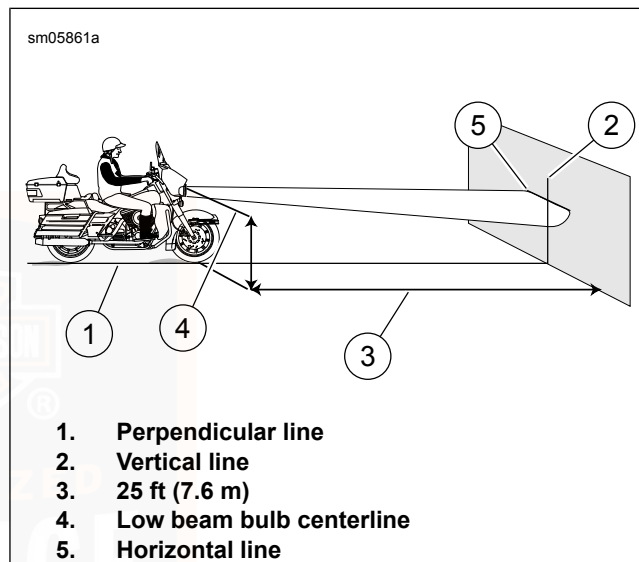
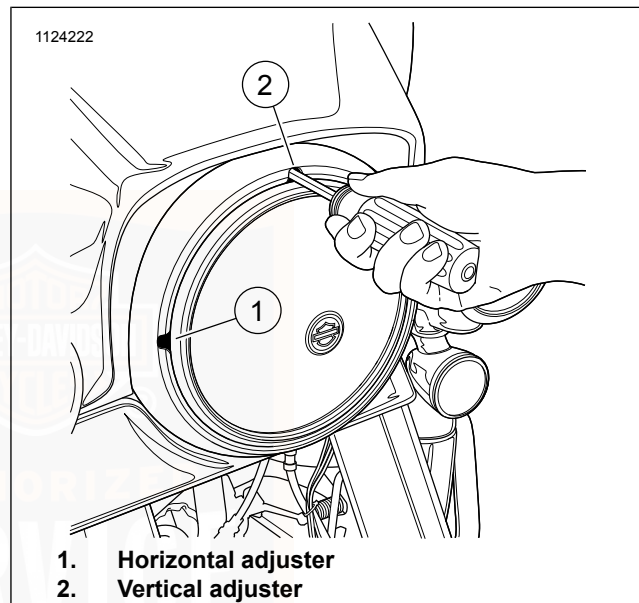

Figure 72. Headlamp Alignment: LED Type (typical)
Figure 73. Headlamp Adjusters: All except Frame-Mounted Fairing (typical)
4. See Figure 72. Park the motorcycle on a line (1) perpendicular to the wall.
6. Draw a vertical centerline (2) on the wall.
7. With the motorcycle loaded, point the front wheel straight forward at wall. Measure the distance (4) from the floor to the center of the low beam bulb.
8. See Figure 72. Draw a horizontal line (5) through the vertical line at low beam centerline.
2. See Figure 73. Insert a 5/32 ball end hex wrench through adjuster slots in trim ring.
- a. **Horizontal:** Turn the horizontal adjusting screw (1) to adjust light beam left and right.
- b. **Vertical:** Turn the vertical adjusting screw (2) to adjust light beam up and down.
3. See Figure 72. Adjust headlamp to center light beam as shown.